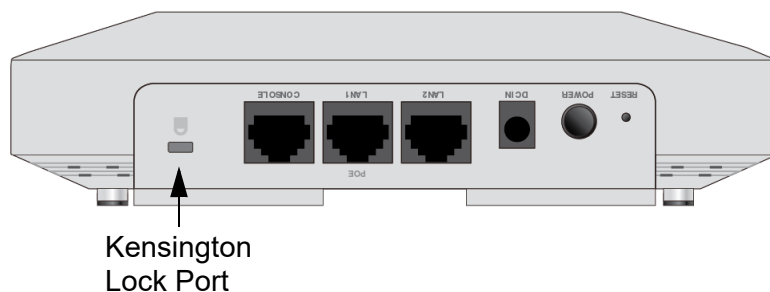

Figure 27. Kensington Lock Port Location
1. Follow the instructions provided with the vendor's anti-theft device for the installation. Refer to Figure 27 for the Kensington lock port location.